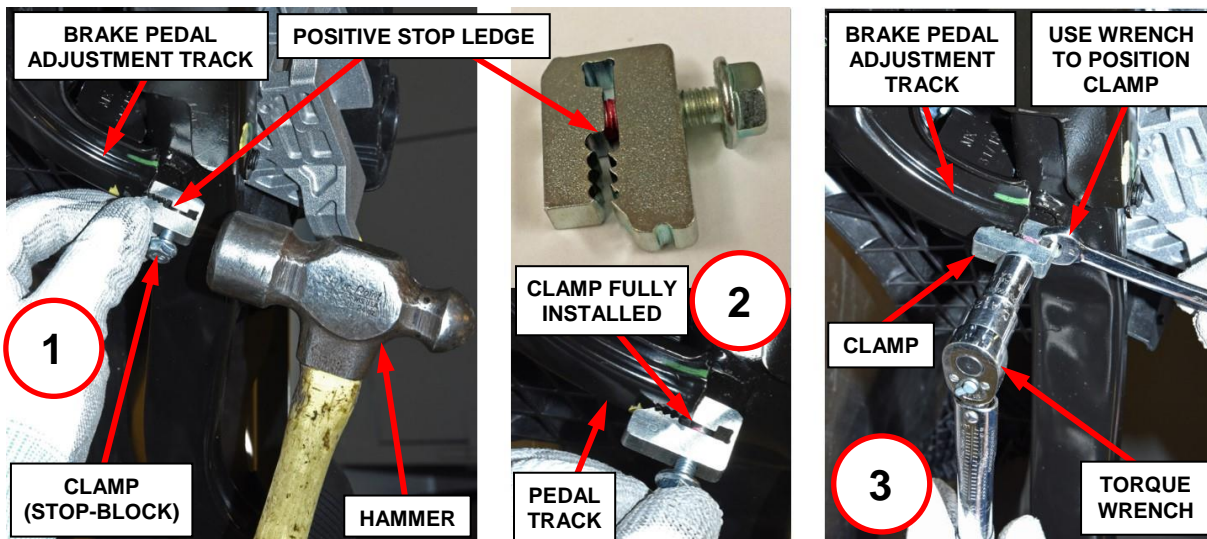

Figure 10 – Clamp (Stop-Block) Installation to Brake Pedal Adjustment Track
- 9. Fully install the clamp until the positive stop ledge comes in contact with the brake pedal adjustment track. Use a wrench or similar tool to position and hold the clamp from rotating while tightening the clamp bolt to 10.5 N·m (93 in. lbs.) (Figure 10).